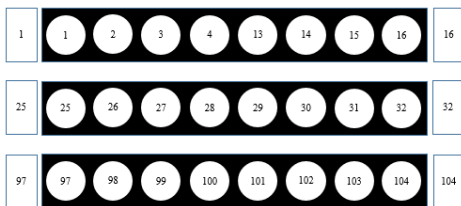

Figure 4 RT Primer (8-tube strip)
- This kit provides 24 RT Primers with different barcodes (see Figure 4). The RT Primers provided were developed to meet requirements for batch processing of library construction and multiplex sequencing. We select the best barcode combination based on the principle of balanced base composition. We provide 4 different combination strategies to pool 8, 12, 16 and 24 samples together, respectively, to do circularization (See Table 25). However, the barcodes are not continuous.